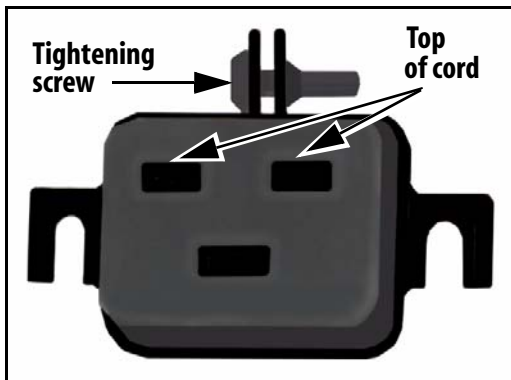
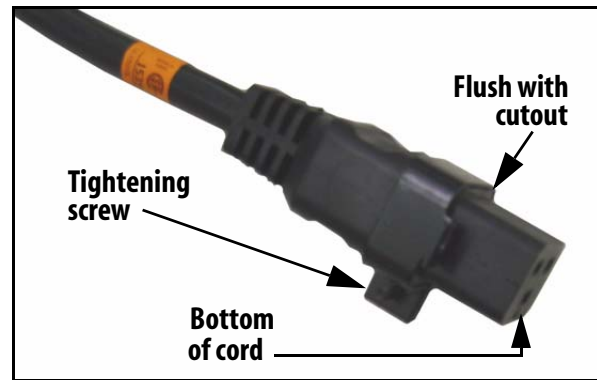

Figure 4 A cord lock installed upward.
Figure 5 A cord lock installed downward.
2. Place the cord locks on the cord ends so they are flush with the cutout (Figure 5); one cord must have the tightening screw on the top (Figure 4), and one cord must have the tightening screw on the bottom (Figure 5).